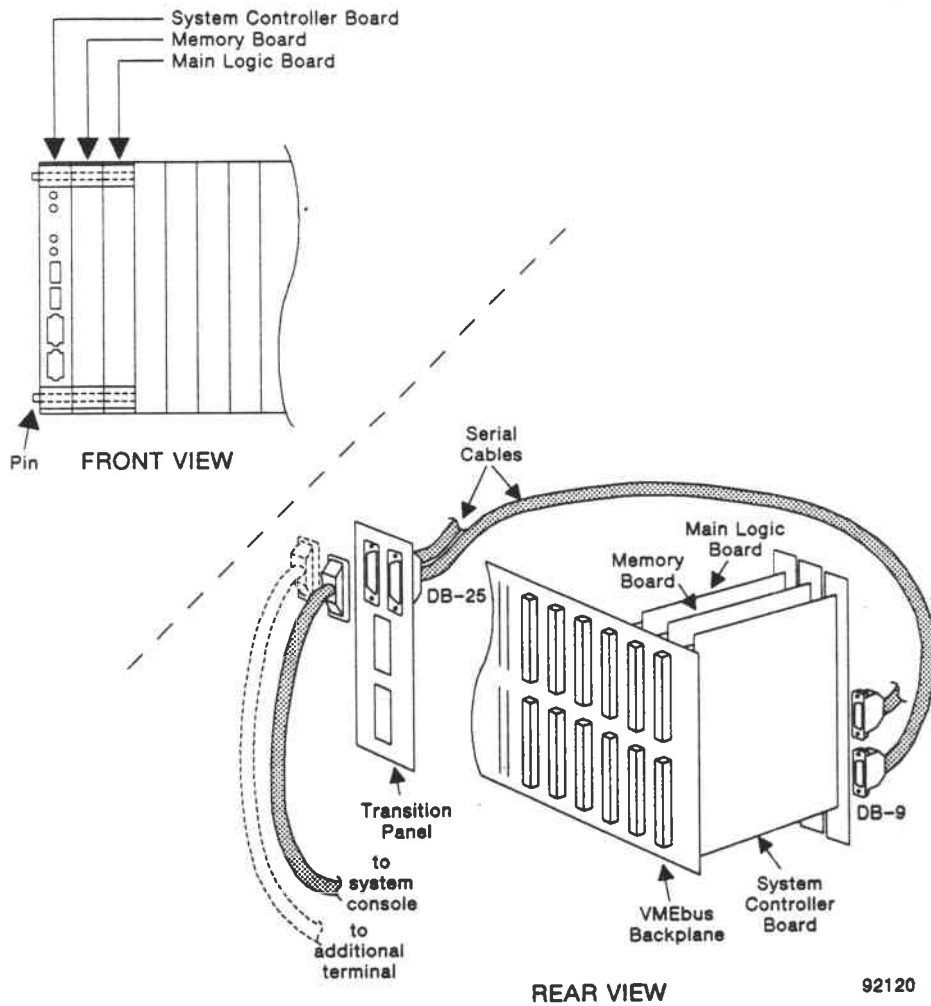

Figure 7. CPU Board Set and Transition Panel Cable Installation
2. Referring to Figure 7, connect the cable mounted in the SERIAL PORT 1/CONSOLE cutout on the transition panel to the SER PORT 1 connector (J4) on the front panel of the system controller board.